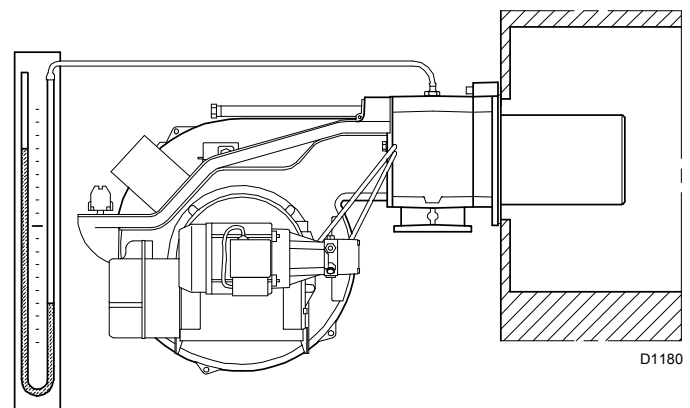

Fig. 38
- Fit a U-type manometer (Fig. 38) to the gas pressure test point on the sleeve.
The arrival of gas at the sleeve is indicated by the U-type manometer (Fig. 38).
A guideline indication can be calculated from the Tab. N at page 23, simply read off the gas pressure on the U-type manometer, see Fig. 38 at page 28, and follow the instructions on page 23.